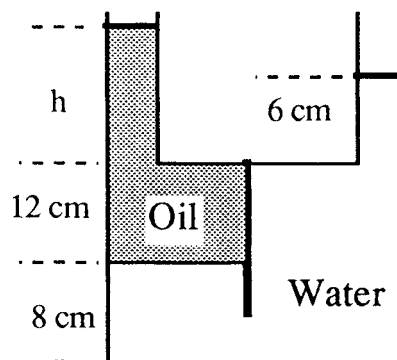

Fig. P2.12
**2.12** In Fig. P2.12 the tank contains water and immiscible oil at 20°C. What is  $h$  in centimeters if the density of the oil is  $898 \text{ kg/m}^3$ ?